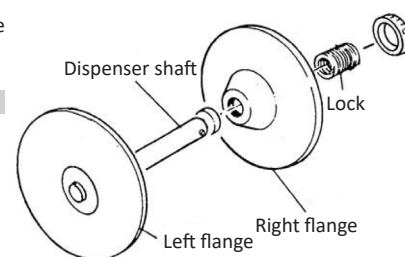

Fig. 2
1. Withdraw the dispenser assembly (Fig. 2). Place the assembly as shown.